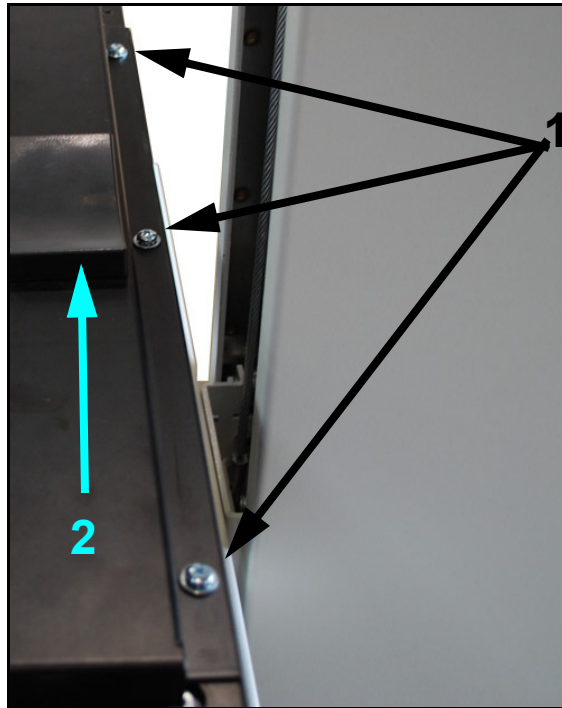

Figure 5-18. Upper Bracket Screws
- 17** Fasten the 3 screws (1 in Figure 5-18) that hold the chin rest (2) in place.